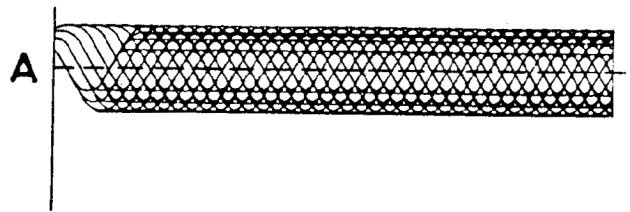

Fig. 24
3. With potentiometer R3155 adjust the EFM signal to $2V_{DD} \pm 10\%$, see fig. 24. The potentiometer is accessible from the bottom of the CDM.